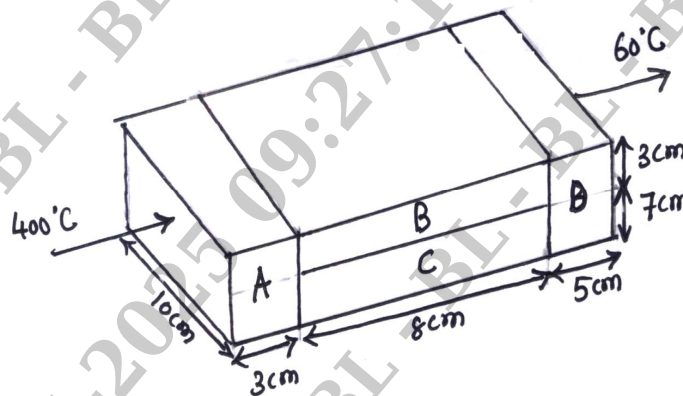

Fig. Q2(a)
- 2 a. Find the heat flow rate through the composite wall as shown in Fig.Q2(a). Assume one – dimensional flow. $K_a = 150 \text{ W/m}^\circ\text{C}$, $K_b = 30 \text{ W/m}^\circ\text{C}$, $K_c = 65 \text{ W/m}^\circ\text{C}$, $K_d = 50 \text{ W/m}^\circ\text{C}$.